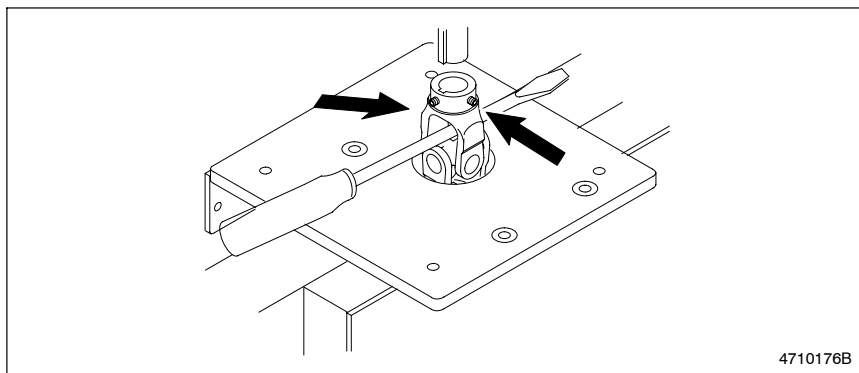

Fig. 7-40 Loosening the Upper Yoke Assembly Set Screws
7. See Figures 7-40 and 7-41. Loosen the set screws in the upper yoke assembly and lift the speed reducer free of the unit.
2. See Figure 7-40. Tighten the set screws in the upper yoke assembly onto the speed reducer output shaft.